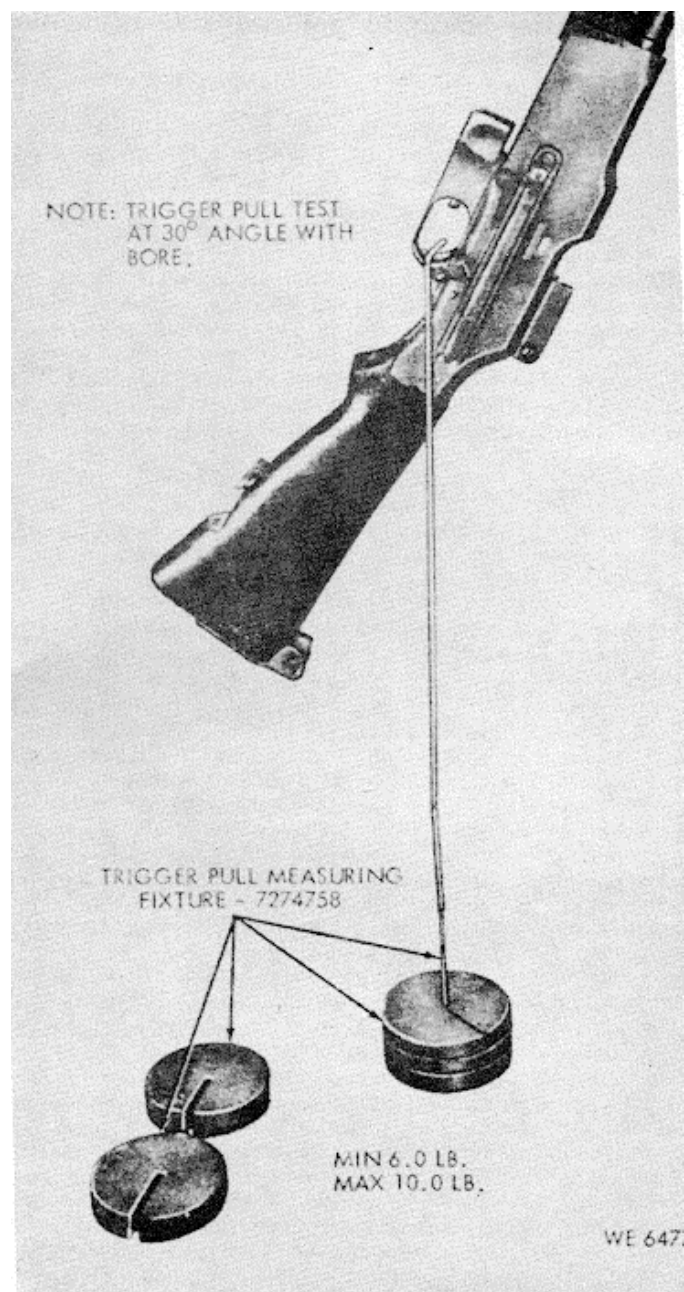

Figure 3-2. Checking trigger pull
b. Check trigger pull (fig. 3-2).